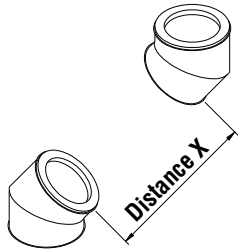

Figure 59- Variable length, Installation step A
- a. Measure the distance required for the variable length. See **figure 59**.